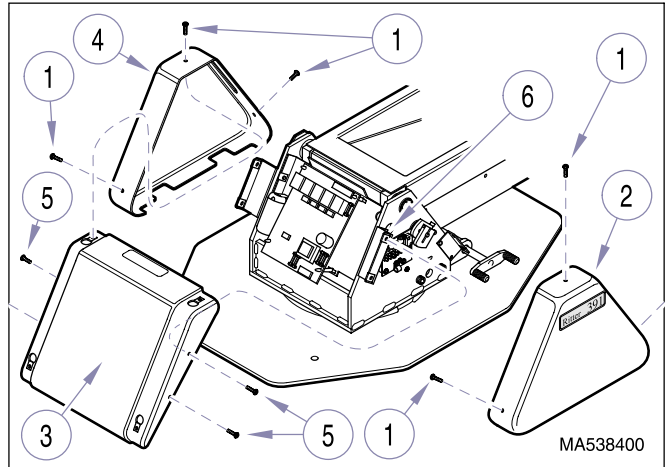
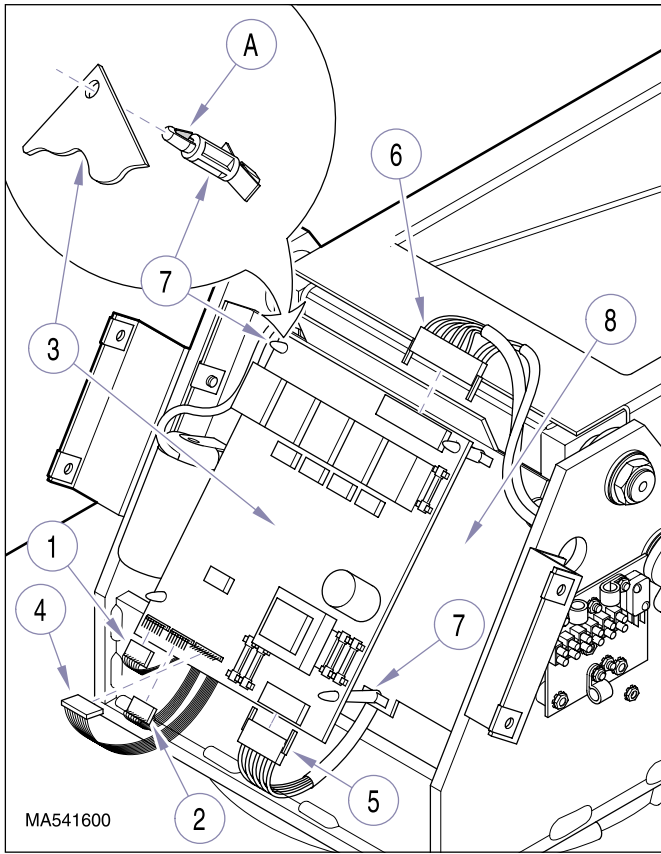

Figure 4-12. Covers Removal / Installation
Figure 4-13. PC Circuit Board Removal / Installation
- (1) Unplug chair power cord from wall outlet receptacle.
- (2) Remove three screws (1, Figure 4-12) and R.H. base cover (2) from center base cover (3).
- (3) Remove three screws (1) and L.H. base cover (4) from center base cover (3).
- (4) Remove four screws (5) and center base cover (3) from cover mounting bracket (6).
- (5) Tag and disconnect foot control harness (1, Figure 4-13) and membrane panel harness (2) from PC circuit board (3).
- (6) Disconnect limit switch harness (4), power harness (5), and motor harness (6) from PC circuit board (3).
- (7) Using a screwdriver, depress locking tab (A) of standoff (7) while pulling upward on that corner of PC circuit board (3) to release it. Repeat for three remaining standoffs (7) and remove PC circuit board (3) from chair.
- (8) Inspect four standoffs (7). If a locking tab (A) on a standoff is broken, remove broken standoff from mounting plate (8).
- (1) If any were removed, install new standoffs (7, Figure 4-13) on mounting plate (8).
- (2) Position PC circuit board (3) on four standoffs (7). Push down on corners of PC circuit board until locking tabs (A) of four standoffs (7) pop out, locking PC circuit board in place.
- (3) Connect motor harness (6), power harness (5), and limit switch harness (4) to PC circuit board (3).
- (4) Connect membrane panel harness (2) and foot control harness (1) to PC circuit board (3).
- (5) Install center base cover (3, Figure 4-12) on cover mounting bracket (6) and secure with four screws (5).
- (6) Install L.H. base cover (4) on center base cover (3) and secure with three screws (1).
- (7) Install R.H. base cover (2) on center base cover (3) and secure with three screws (1).
- (8) Plug chair power cord into wall outlet receptacle.